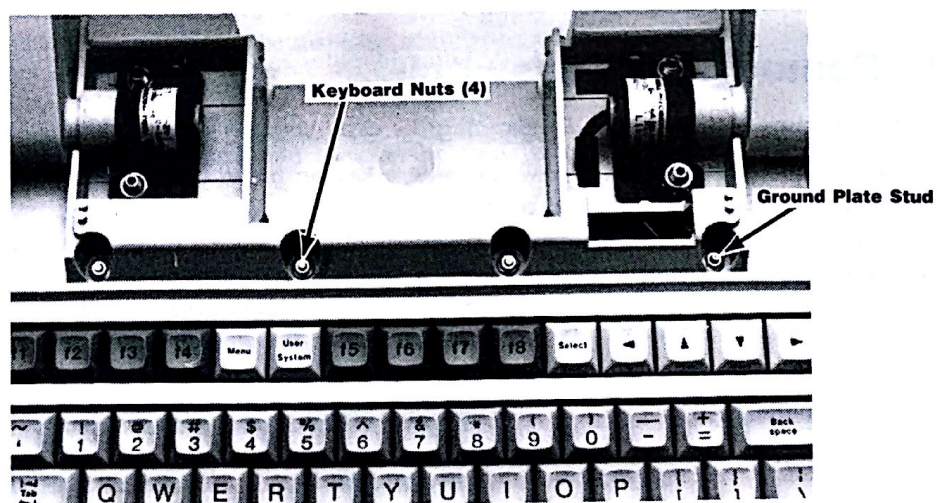

Figure 6-14. Removing the Keyboard Top Nuts
2. Remove the four nuts along the top edge of the keyboard; remove the ground plate (figure 6-14).